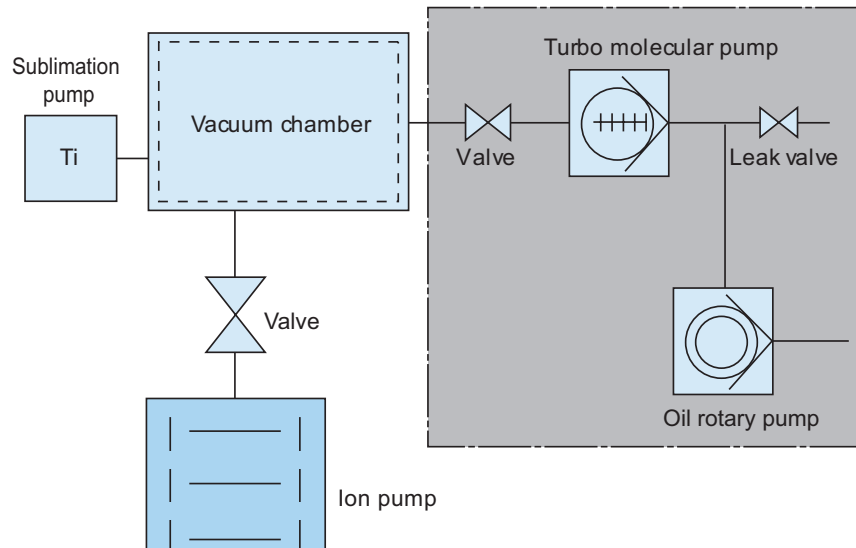

Fig. 10 Combining the roughing system with turbo molecular pump and oil rotary pump
In general, the exhaust system configuration shown in Figure 10 is recommended.
• System combining the turbo molecular pump and oil rotary pump (Fig. 10)